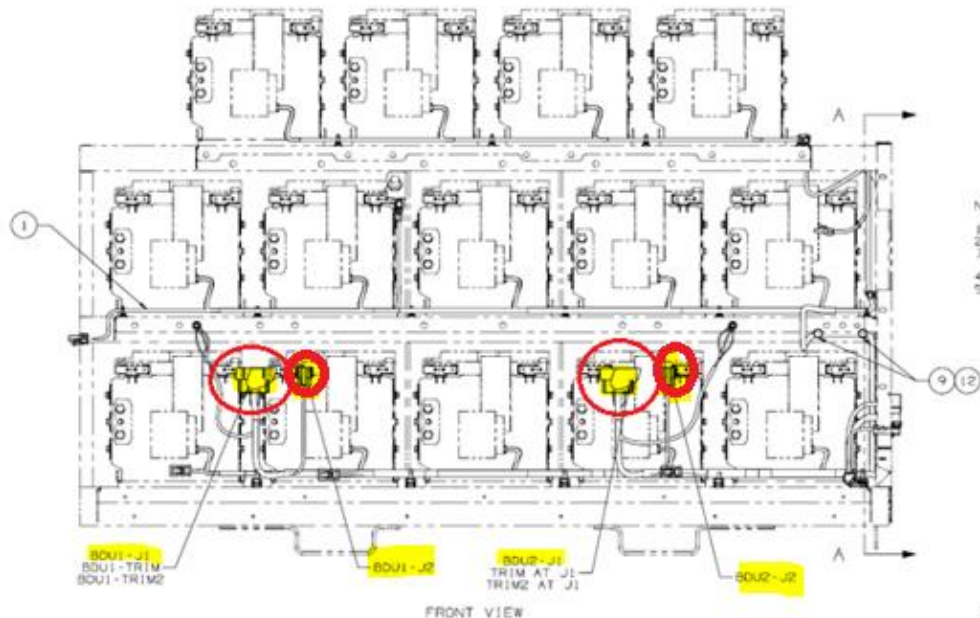

Figure 12: Rear ESS J1-BDU Connector Location
- 3.5 Re-install the BDU assemblies using the existing hardware. Ensure both J1 and J2 to BDU connections circled in Figure 12 below are seated properly.